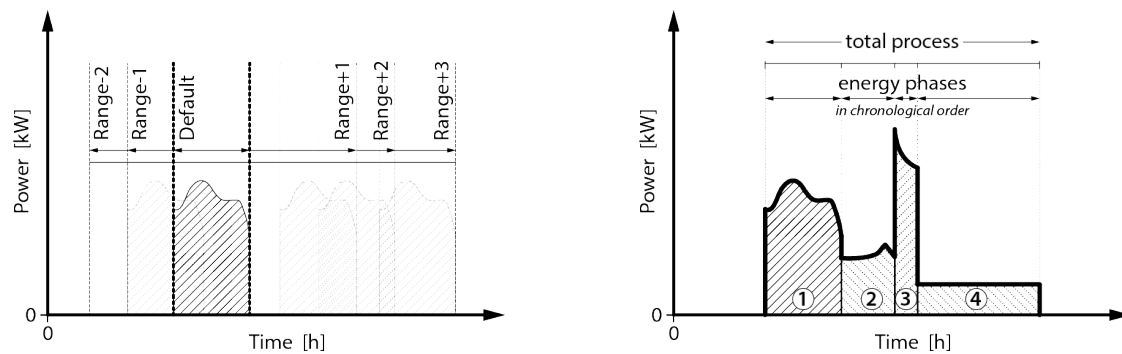

Figure 5 Sequential load – temporal operation ranges (left) and sequencing (right)
2. Sequential flexibility, cf. Figure 5
- a. Sub-process with fixed shape $S(P(t_x))$, and therewith E can be shifted in time; internal cost depending t deviation range can be defined (Figure 5, left),
- b. Several sub-processes can be either combined in chronological order (Figure 5, right) or in non-chronological order (batch processing, *not depicted*).